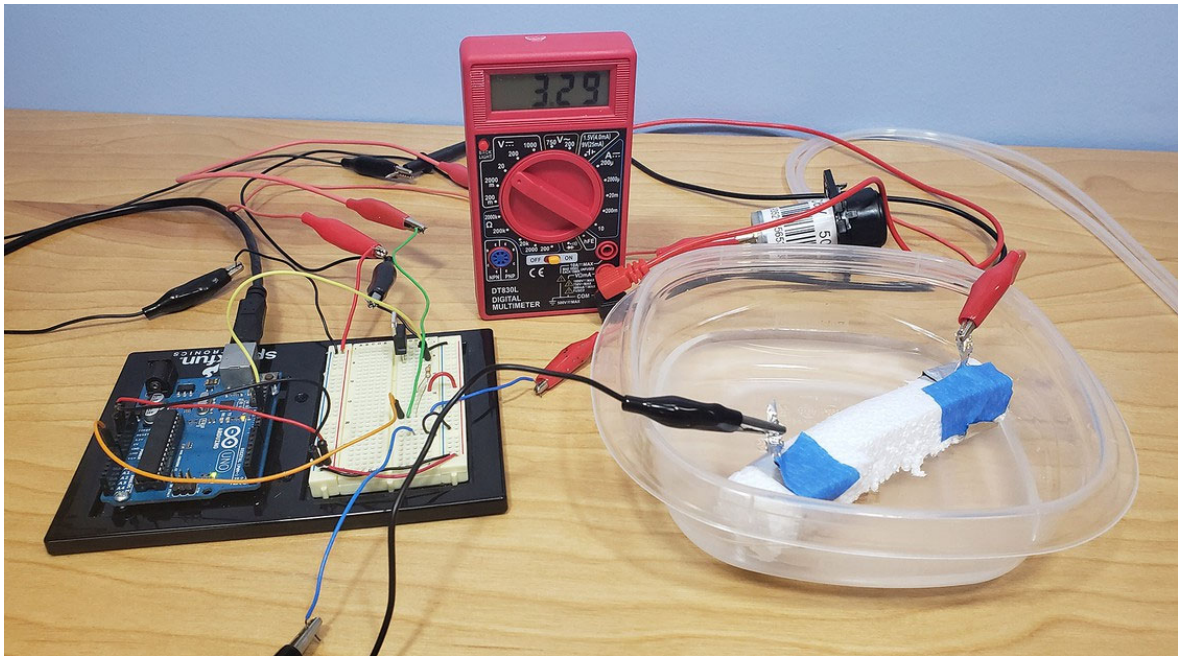

Figure 7. Multimeter connected to measure voltage from the conductivity sensor.
- a. If you have a multimeter available, set it to measure DC voltage and connect it to the circuit as show in Figure 7.